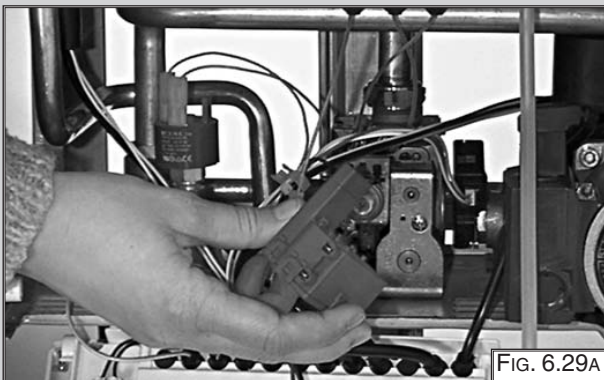

FIG. 6.29A
3. Remove the spark generator by pulling forward from the gas valve (FIG. 6.29A).